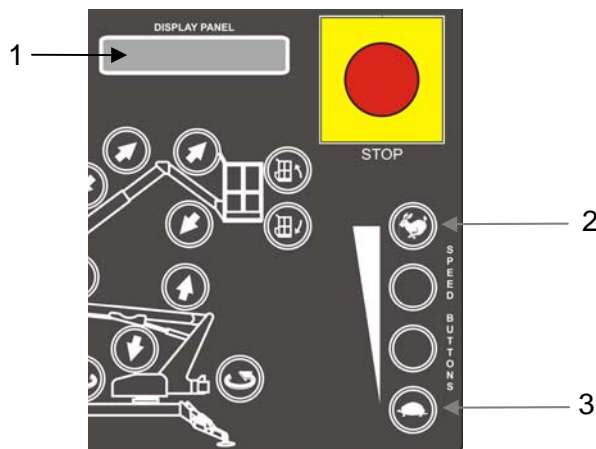

Figure 4-5. Display Run Time Hours
- Repeat every 100 **RUN** hours, or annually, which ever comes first. Run hours are displayed by simultaneous pressing (pushing) the **RABBIT (2)** and the **TURTLE SPEED (3)** buttons on the ground (lower) control panel and reading the **DISPLAY PANEL (1)**. Refer to Figure 4-5.